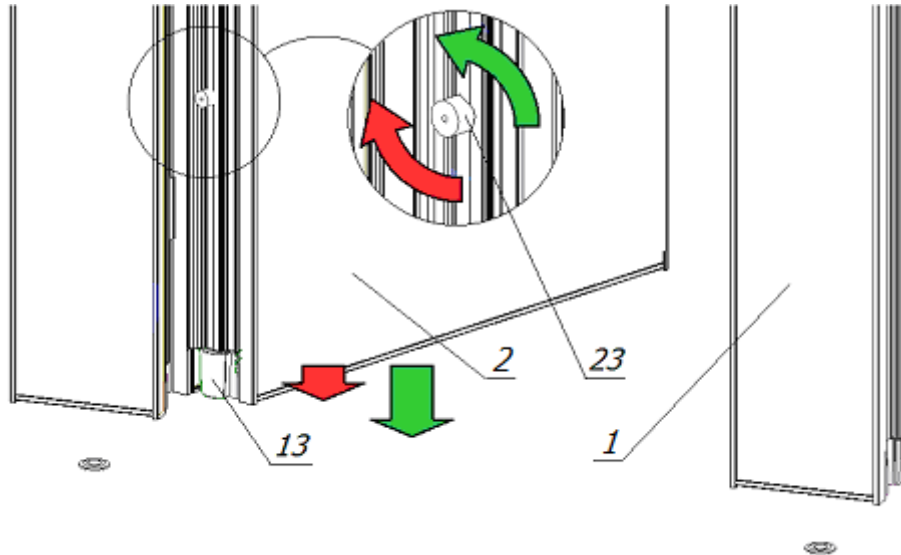

Fig.51. Adjusting the pressure of the lower beam sealing the door
The next step is to **check the lower beam sealing the door (13 in Fig. 51) after closing it** and adjusting it if it does not function properly
Check that the bottom beam sealing the door (13 in Fig.51) does not stick too much to the ground before the door closes! If so, it should be adjusted
- **RIGHT, increasing the ground pressure** (marked with a colored **green vertical arrow** in Fig.51)
- **LEFT, reducing the pressure to the ground** (marked with a colored **shorter red arrow** in Fig.51)
An example of a **wall with an electric beam ejection** is shown in the figure below (Fig.51).